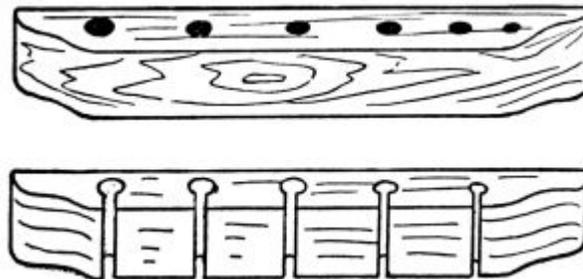

FIG. 16.—Bit and Chisel Racks.
**Racks for Bits and Chisels** should be made similar to Fig. 16, and fastened side by side to the inside of the cabinet.